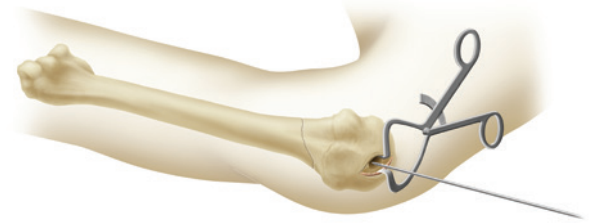

Figure 4
2. Use the Entry Cuff Guard (71751100) protective device to retract the soft tissue of the rotator cuff for visualization of the bone. (Figure 4)